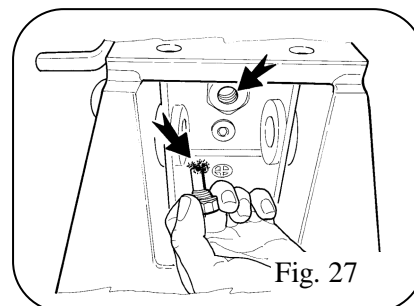

Fig. 27
- It is advisable to change the hydraulic oil after the first 150 working hours. The hydraulic oil can be drained by removing the 3/8" cap placed under the column (see fig. 27)
- It is advisable to dismount and clean the magnetic filter whenever the oil is changed (Fig. 27).